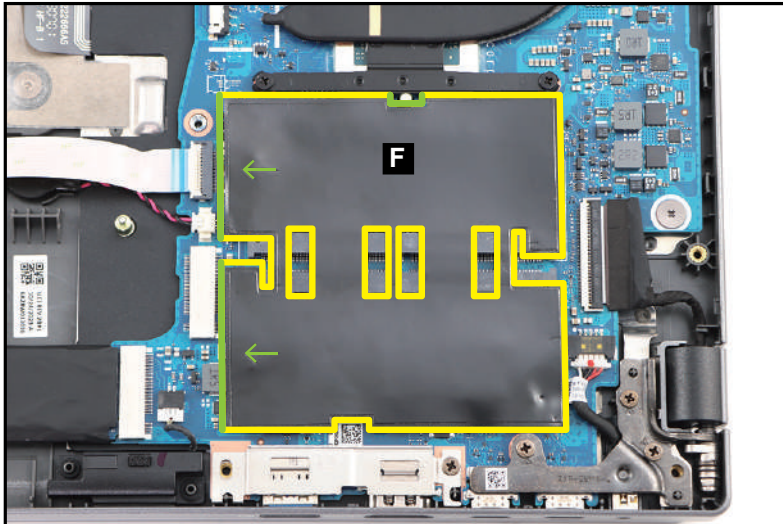

Figure 3-148. Replacing the DIMM Module
8. Attach the absorber with mylar (F) onto the DIMM modules. Make sure the absorber with mylar is properly aligned and placed onto its slot highlighted by the yellow and green lines as shown in Figure 3-148.